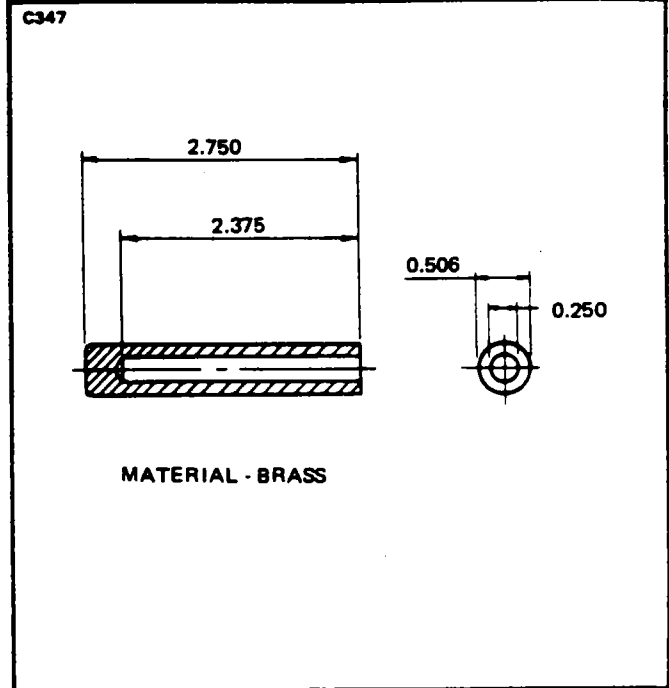

Figure 8-30. Ferrule Seating Tool 11-7074
8. Provide a back up support for the cover, and seat the ferrule, using the 11-7074 Ferrule Seating Tool (Refer to Figure 8-30) and a mallet. Ferrule must be driven straight into the cover and fully seated.